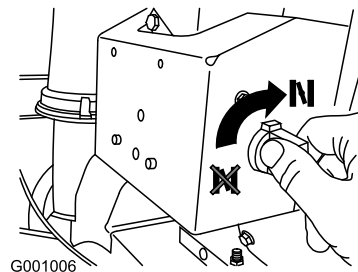

Figure 26
4. Rotate the choke to the On position (Figure 26).